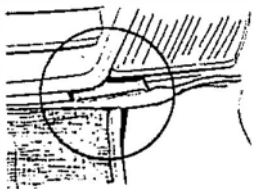

figure 5
2.3 If step 2.1 revealed the presence of mounting tabs, insert them into the appropriate spaces. See figures 5 & 6 for examples. If yours is a one-piece bra, skip to step 2.5.